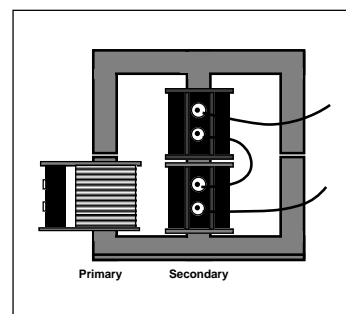

Figure 2
3. Now replace the 800-turn coil with the two 400-turn coils, stacked on the same arm of the E-shaped core. With the two coils connected as shown in Figure 2, with a load resistance of 1000 ohms, measure the input and output currents and voltages. Record your results in Table 4.1.